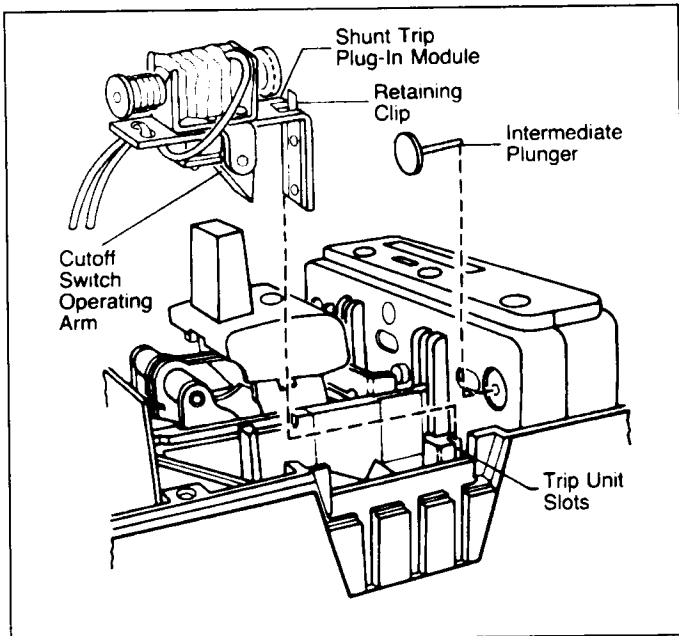

Fig. 2-4. Installing Intermediate Plunger and Shunt Trip
- a. Position intermediate plunger in trip unit. (See Fig. 2-4.)
- c. Slide shunt trip plug-in module into trip unit slots until spring-loaded retaining pin snaps into clip recess. Cutoff switch operating arm must be between the accessory operating projection on the molded cross-bar and the trip unit (Fig. 2-4.). For terminal block assemblies, slide terminal block into mounting slot on side of base as plug-in module is being positioned.